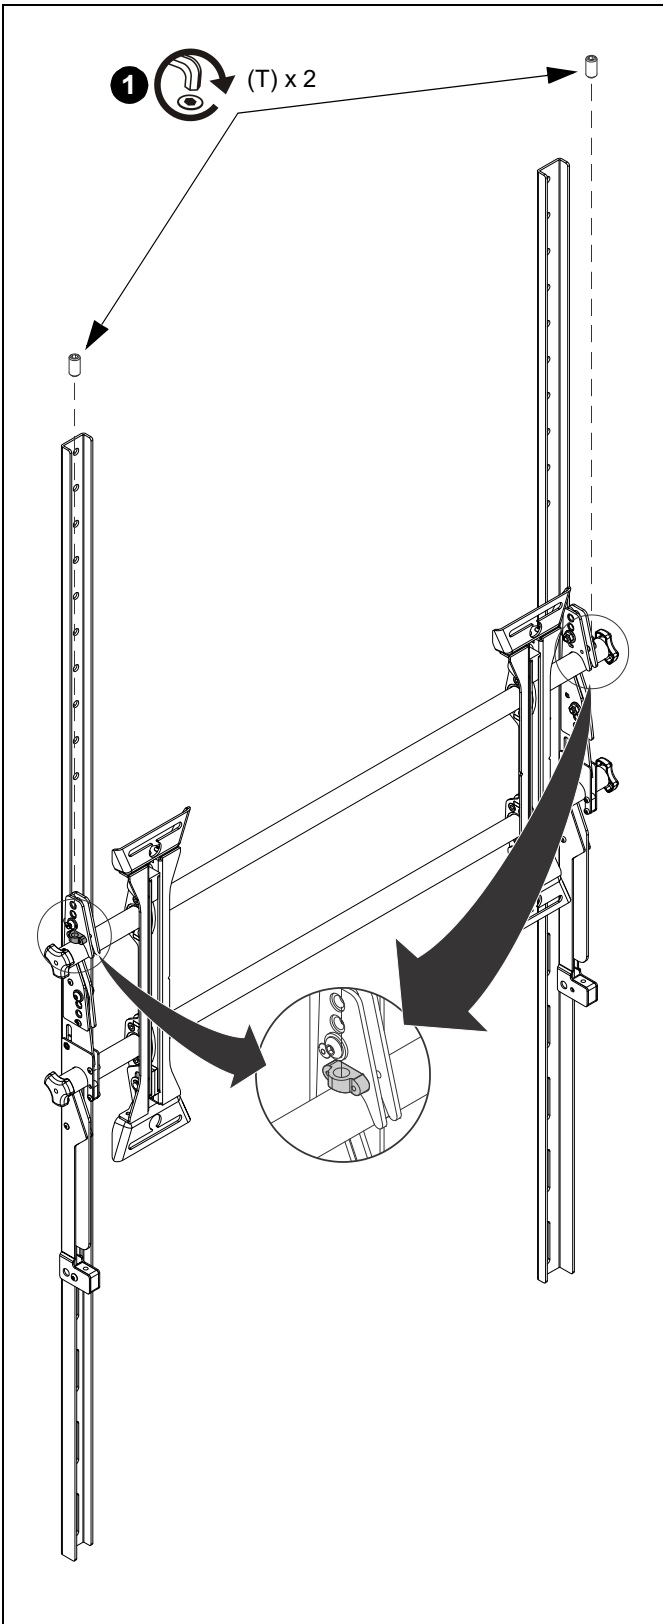

Figure 16
1. Lock screen interface brackets onto mount rails using one 3/8-16 x 3/4" set screw (T) on each interface bracket. (See Figure 16)